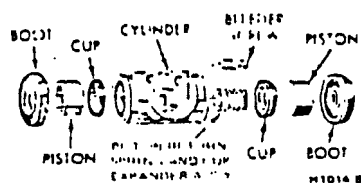

FIG. 12 Double Servo Brakes Cylinder
1. With the wheel cylinder removed, remove the rubber boots from the ends of the brake cylinder. Remove the pistons, cups, and piston return spring from the cylinder (Fig. 12).
2. Install the bleeder screw (Fig. 12) in the brake cylinder.